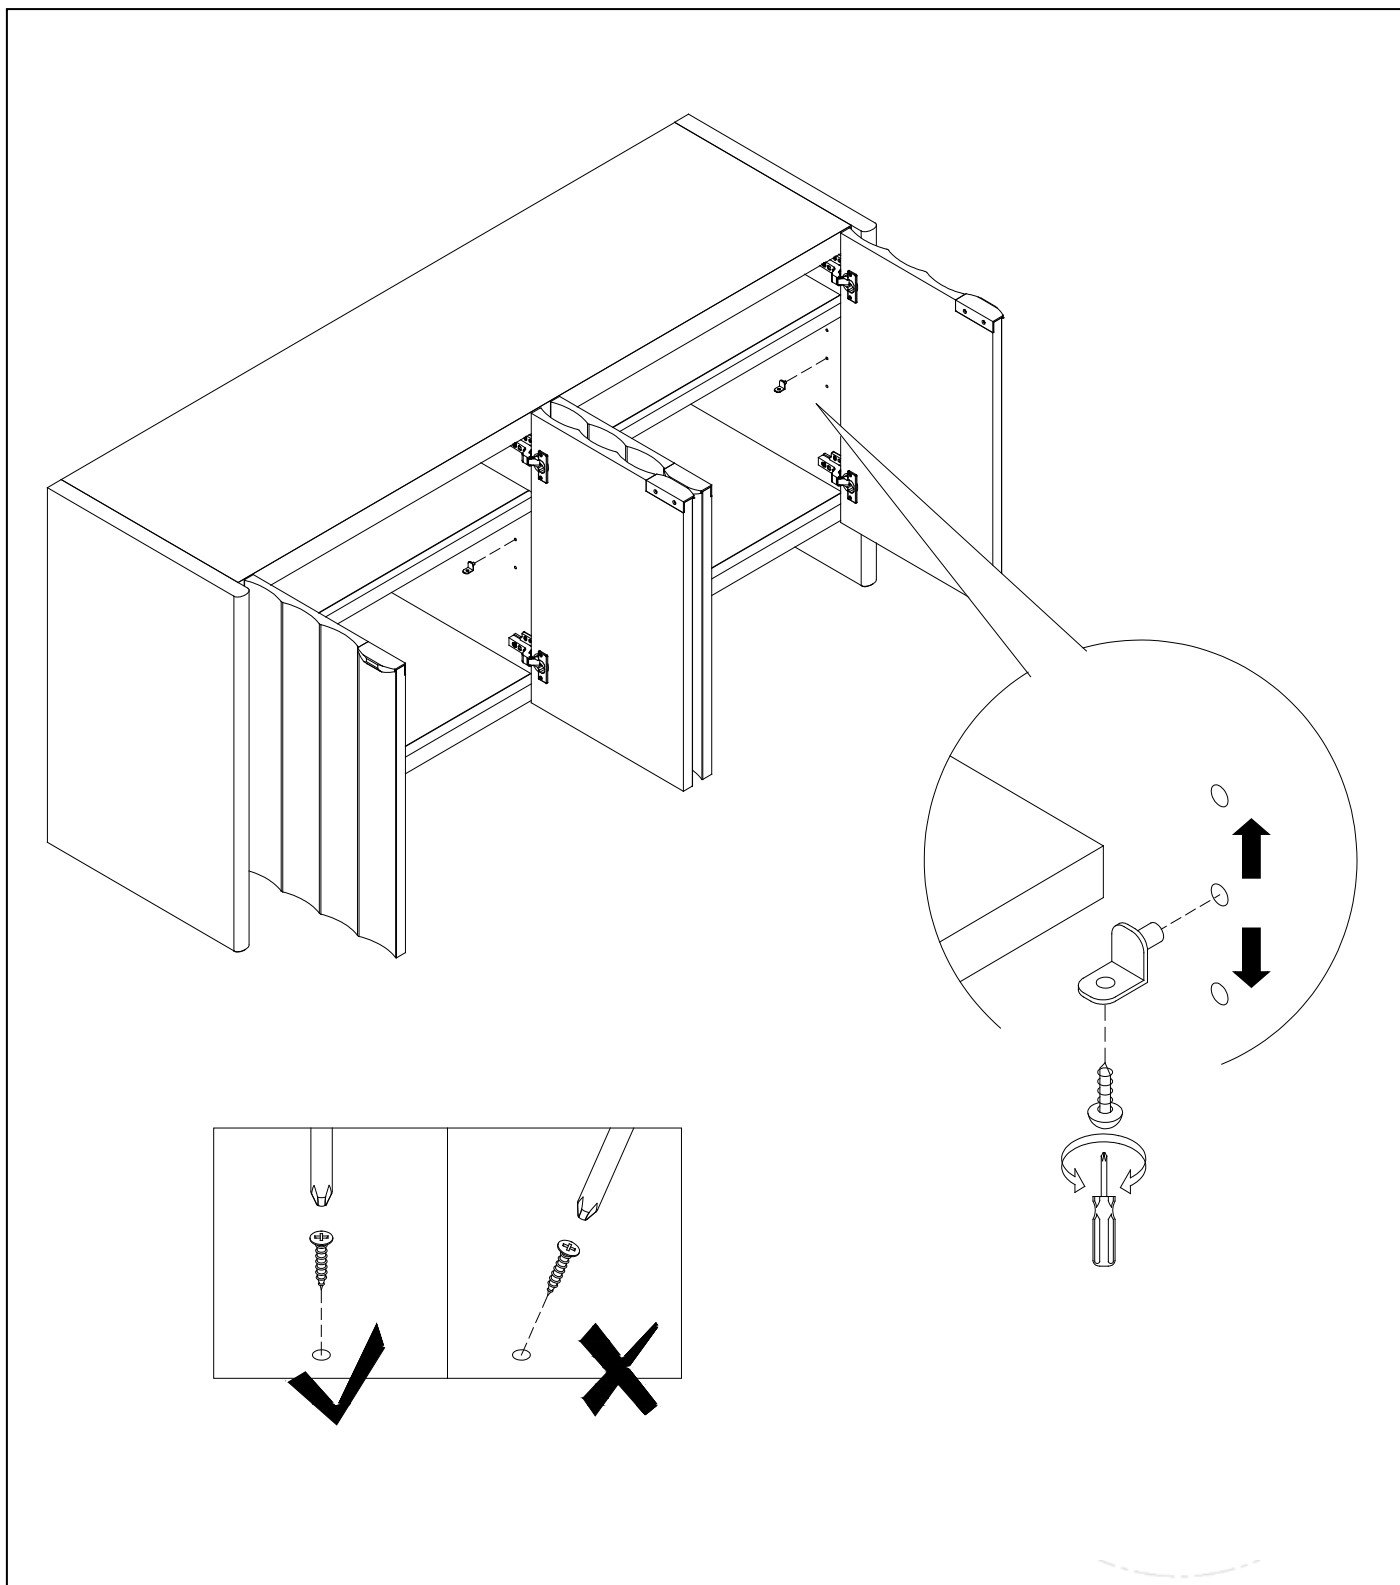

Figure 4
Step 4: The Shelf Panels can be adjusted up and down in it own location as shown below. Consumer need only to unscrew the screw, adjust the Shelf Support Pin either up and down and place the Shelf Panel back onto the Shelf Panel and install the screw again. Illustration as shown below. See Figure 4